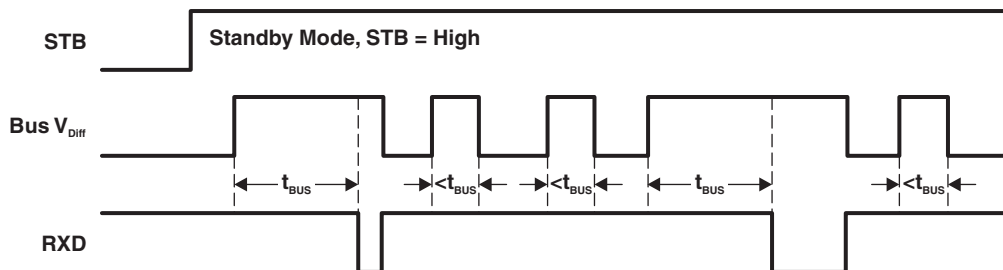
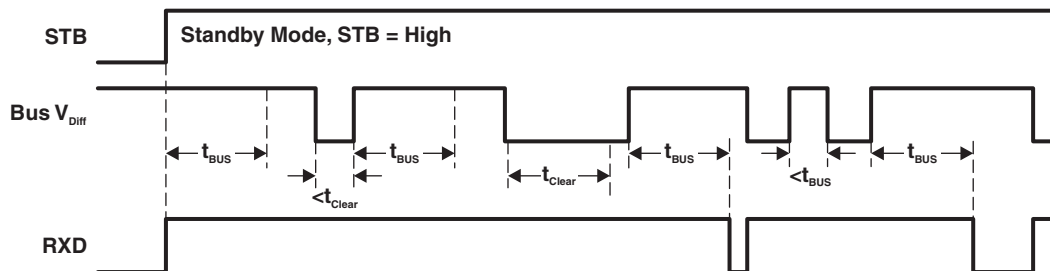

Figure 18. HVDA551 RXD Wake-Up Request With No Bus Fault Condition
Figure 19. HVDA551 RXD Wake-Up Request Lockout During Bus Dominant Fault Condition
(2) See Figure 18 and Figure 19 for operation of the low-power wake-up receiver and bus monitor for RXD wake-up request behavior and Table 5 for the wake-up receiver threshold levels.
(3) When V_{IO} is undervoltage, the device is forced into standby mode with respect to the CAN bus, because there is not a valid digital reference to determine the digital I/O states or power the wake-up receiver.
(1) Mirrors bus state: LOW if CAN bus is dominant, HIGH if CAN bus is recessive.
- (1) H = high level, L = low level, X = irrelevant, ? = indeterminate.
- (2) While STB is high (standby mode) the RXD output of the HVDA551 functions according to the levels above and the wake-up conditions shown in Figure 18 and Figure 19.